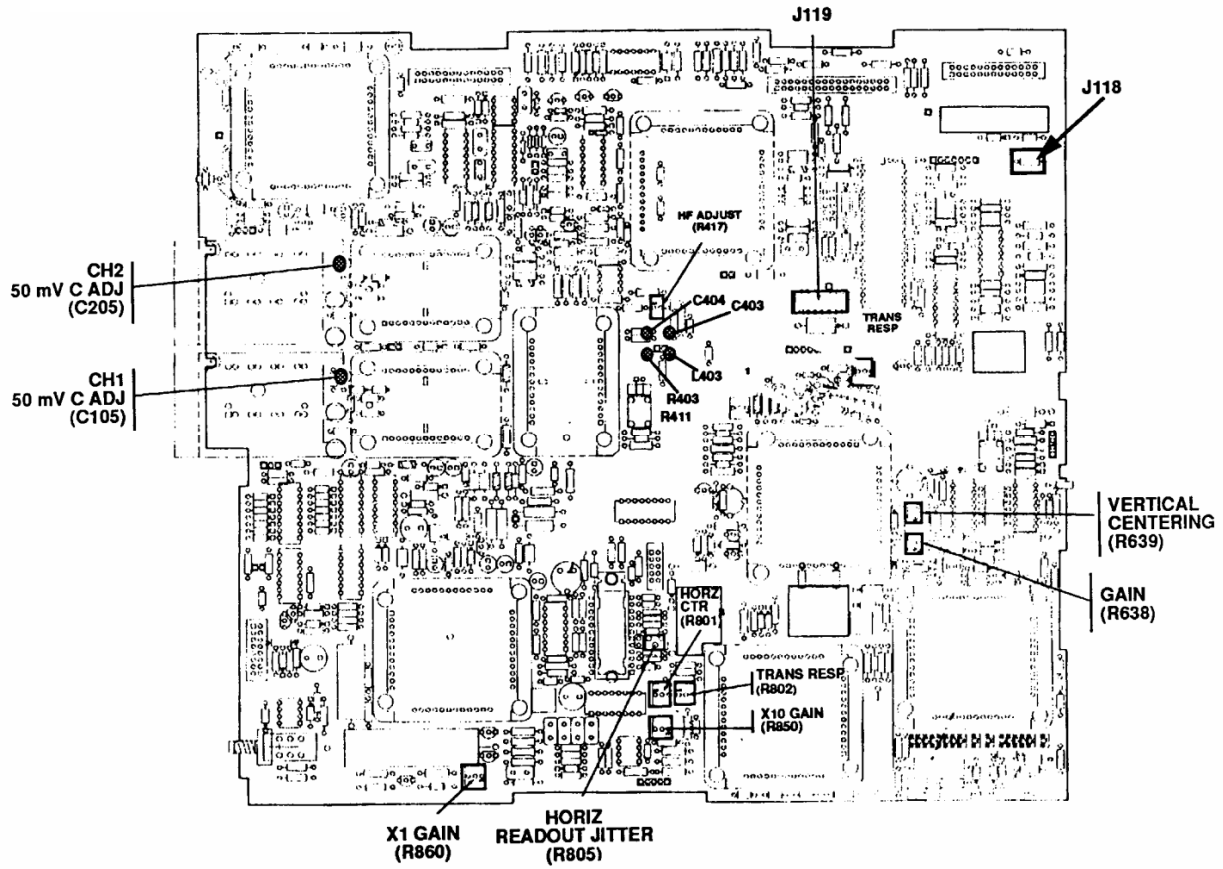
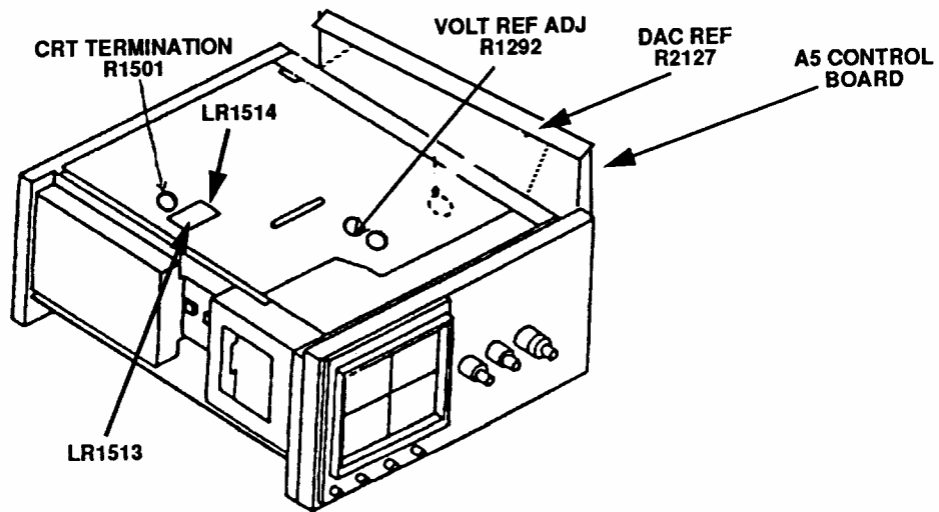

Figure 1. A1 main board - adjustment locations.
Figure 2. Adjustment locations.
- (1) Press **VERTICAL MODE** pushbutton **CH 2** to off.
- (2) Connect multimeter **LO** to chassis ground and **HI** to TI J119 (fig. 1) pin 4. If multimeter does not indicate between +9.99 and +10.01 V dc, perform **b** below.
b. Adjustments. Adjust VOLT REF ADJ R1292 (fig 2) until multimeter indicates 10.00 V DC (R).
- (1) Press **Δ t** pushbutton for a **Δ t** display on crt.
- (2) Connect multimeter **LO** to chassis ground and **HI** to J118 (fig 1) pin 2.
- (3) Rotate **Δ REF OR DLY POS** control ccw until multimeter indication remains at a constant value (approximately -1.25 V dc). Record indication.
- (4) Rotate **Δ REF OR DLY POS** control cw until multimeter indication remains at a constant value (approximately 1.25 V dc). Record indication.
- (5) Add the absolute values of indications recorded in (3) and (4) above (approximately 2.500 V).
- (6) Subtract the total in (5) above from 2.500 V, then divide the difference by two.
- (7) Adjust DAC REF R2127 (fig 2) to add the (signed) number obtained in (6) above to the reading in (4) above.
- (8) Repeat (3) through (7) above as necessary to obtain a total DAC range of 2.500 V.
- (9) Disconnect multimeter.
- (10) Press Δt pushbuttons to off (no cursor on display).
- (11) Connect oscilloscope calibrator **SOURCE/MEASURE CHAN 1** to **TI CH 1** using a 5-80 pF standardizer.
- (12) Set oscilloscope calibrator for a **CHAN 1, EDGE** mode output of **600 mV** at 1 kHz frequency.
- (13) Rotate oscilloscope calibrator knob below **EDIT** field pushbutton to adjust waveform to 6 divisions of vertical deflection on TI.
- (14) Adjust 5-80 pF standardizer for a square front corner over the first 40 μ s (0.4 division) of the positive portion of waveform. Note waveform front corner for use in (17) below.
- (15) Change oscilloscope calibrator **EDGE** mode output to **300 mV** at 1 kHz.
- (16) Set **VOLTS/DIV** switch to **50 mV** and rotate oscilloscope calibrator knob below **EDIT** field pushbutton to adjust waveform to 6 divisions of vertical deflection on TI.
- (17) Adjust CH1 50 mV C ADJ (C105) and CH2 50 mV C ADJ (C205) for CH 2 (fig 1) for same waveform front corner as noted in (14) above.
- (18) Set **VOLTS/DIV** switch to **100 mV**.
- (19) Repeat (13) through (18) above until no change is observed in the waveform front corner.
- (20) Press **VERTICAL MODE CH 1** to off and **CH 2** to on.
- (21) Repeat technique of (11) through (19) above for **CH 2**.
(24) Push up and release **TRIGGER COUPLING** switch. Display readout will indicate **X1, X10, HRZ CTR**, (step) **5, 10 μs** and two vertical cursors appears on the display.
(25) Change oscilloscope calibrator **MARKER** mode output to **10 μS/D**.
(26) If cursors are not aligned with 2^d and 10th vertical graticule lines, adjust X1 GAIN (R860) (fig 1), and HORZ CTR (R801) (fig 1) to align the two cursors with 2^d and 10th vertical graticule line (R).
(27) If TI does not display 1 time marker per division ± 1 minor division, adjust X10 GAIN (R850) (fig. 1) for 1 marker per division (R).
(28) Push up and release **TRIGGER COUPLING** switch. Display readout will indicate **ADJ Δ**, (step) **6, 10 ms, 100 μs**.
(29) Change oscilloscope calibrator **MARKER** mode output to **10 mS/D** and adjust **ΔREF OR DLY POS** control to intensify 2^d time marker and **Δ** control to intensify 10th time marker, and superimpose delayed B sweep time markers within .2 division.